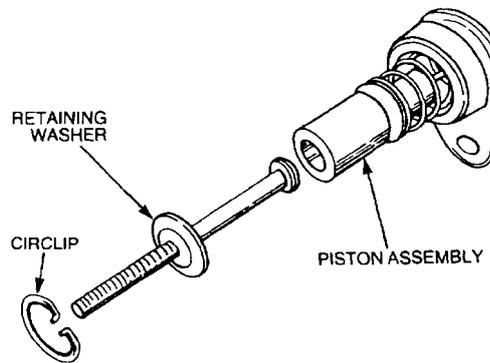

Figure 149 Installing the Piston Assembly
- j. Install the push rod, retaining washer and circlip (Figure 149).